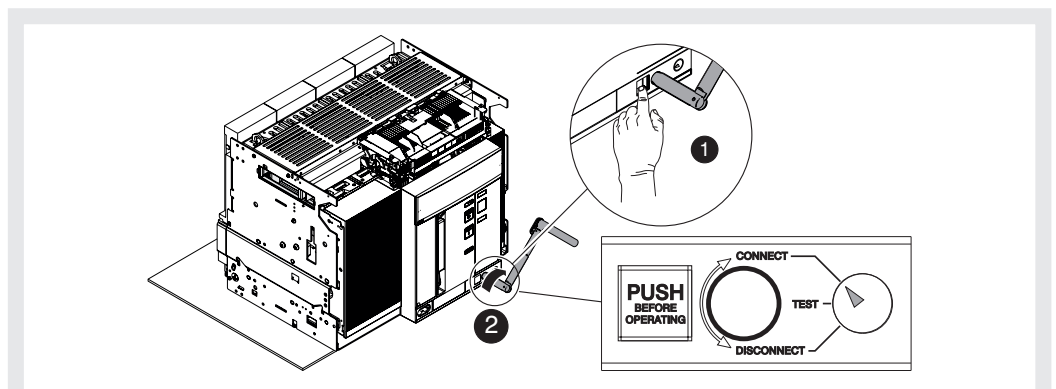

Figure 45
11. Press the lock button and rotate the crank clockwise until it comes out and the indicator shows that the circuit-breaker is in **CONNECT** position. See Figure 45.